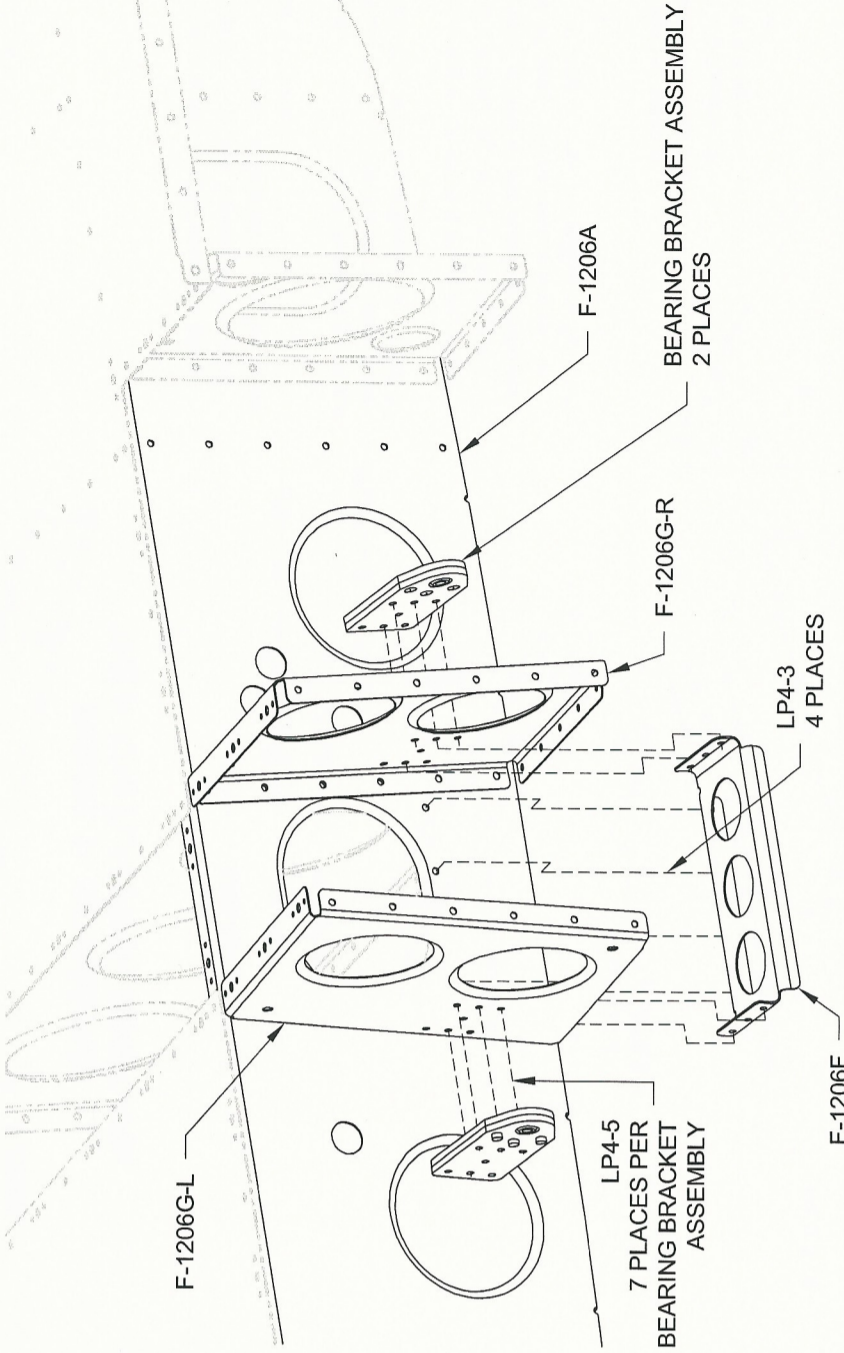

FIGURE 3: RIVETING F-1206F
Step 7: Rivet the F-1206F Bearing Bracket Brace to the F-1206A Bulkhead using the rivets called out in Figure 3.
Step 8: Rivet the F-1206F Bearing Bracket Brace to the F-1206G-L & -R Baggage Ribs and Bearing Bracket Assemblies using the rivets called out in Figure 3. The flush, manufactured heads of the rivets in the Bearing Bracket Assemblies are placed against the web of the baggage ribs.